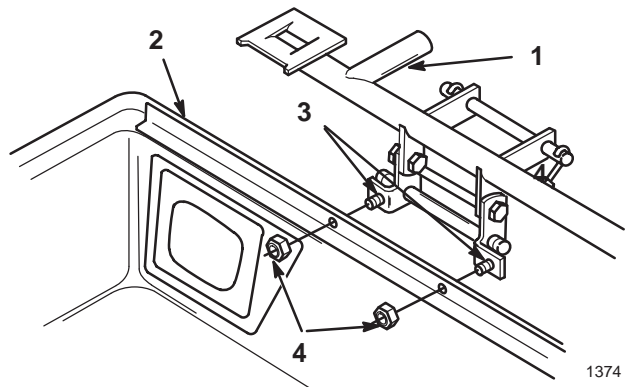

Figure 8
4. Mount the frame hinge to the cover with (1¼" x 3⁄4") bolts (already in hinge)s. Secure with lock nuts (Fig. 8).